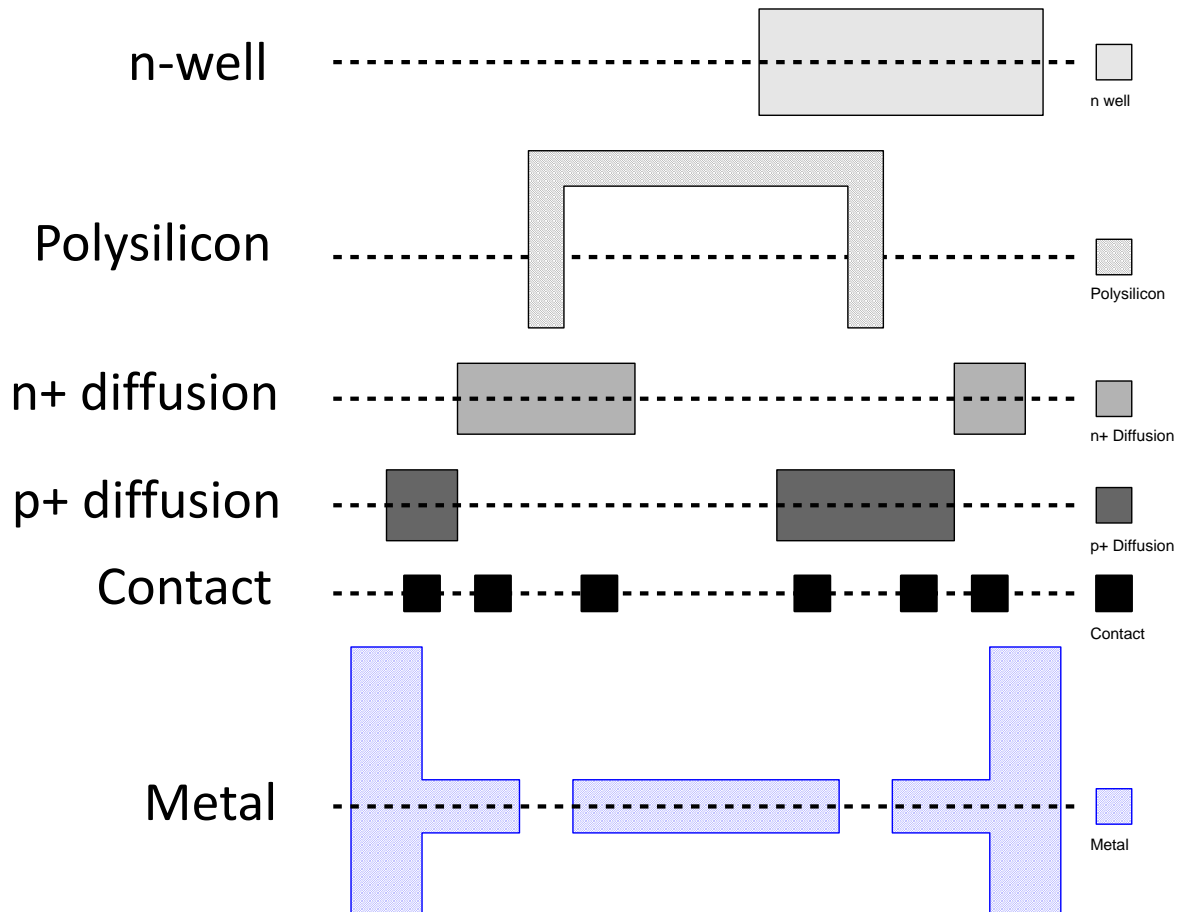

Figure 1
1. (a) Figure 1 below shows the layout mask sets of a CMOS logic circuit.